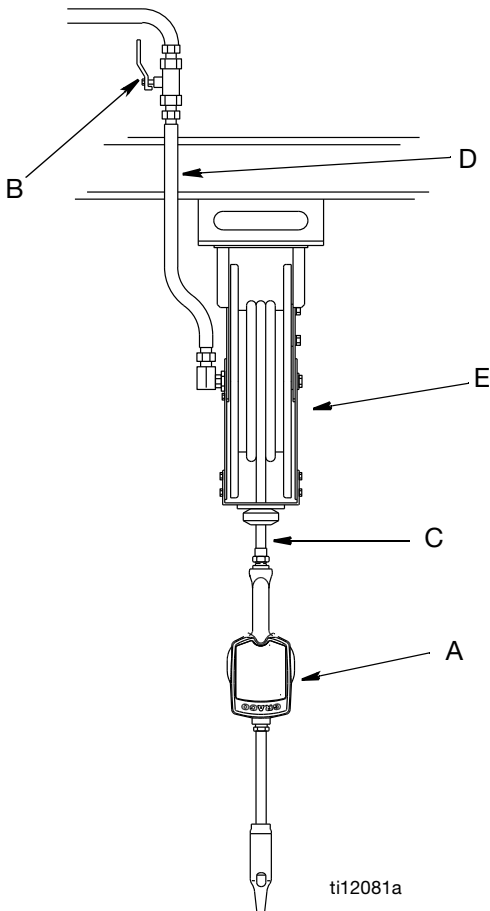

FIG. 1
FIG. 1 shows a typical hose reel installation. Dispense valves can also be installed on a console as shown in Fig. 2.
The typical installation shown in Fig. 1 is only a guide. It is not a complete system design. Contact your Graco distributor for assistance in designing a system to suit your needs.
3. Close the shut-off valve (B, FIG. 1, page 6).